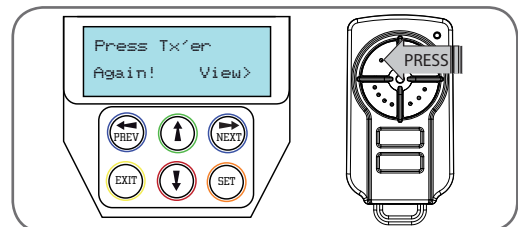

fig 35
3. Press same transmitter button again as prompted by display (Fig. 35).